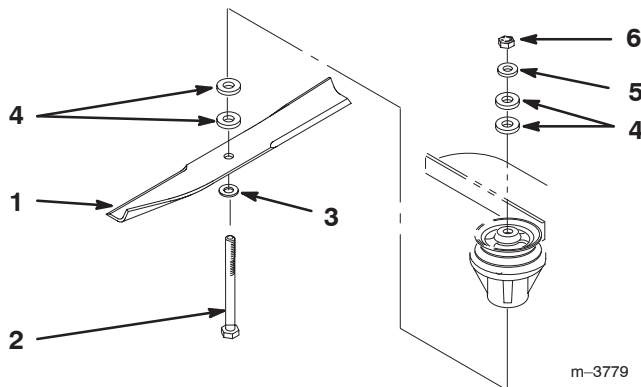

Figure 25
2. Remove the nut, blade bolt, cone washer, blade, spacers, and thin washer from the spindle (Fig. 25).
1. Place the blade onto the bolt and over the cone washer. Select the proper number of spacer(s) for the height-of-cut, and slide the bolt into the spindle (Fig. 25).
2. Install the remaining spacer(s) and secure them with a thin washer and a nut (Fig. 25).